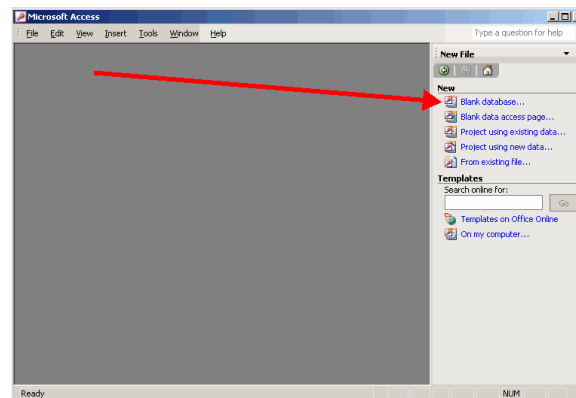

Figure 33
38. Choose Blank Database from the New File list. (Figure 33)